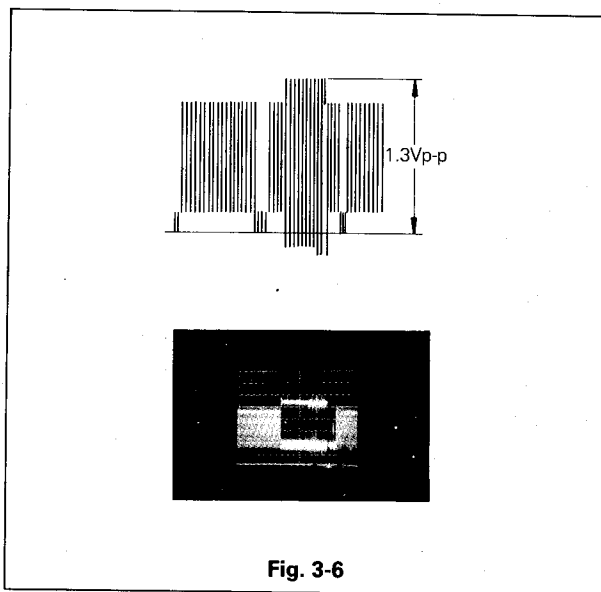

Fig. 3-6
- Referring to Fig. 3-6, adjust VR2A0 so that the upper limit of the noise bar from the top end of synchronizing signal is 1.3 ± 0.05 Vp-p.